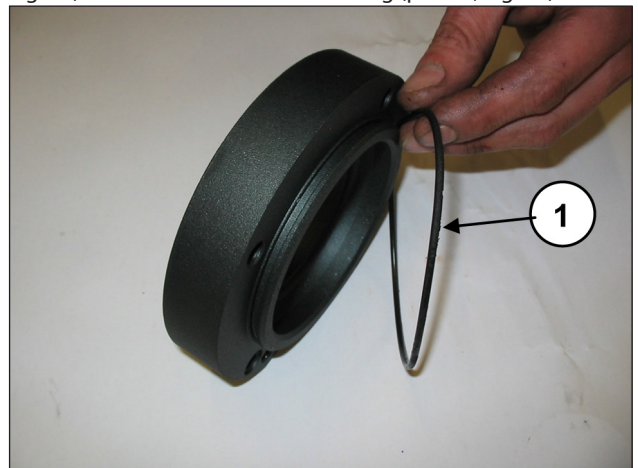
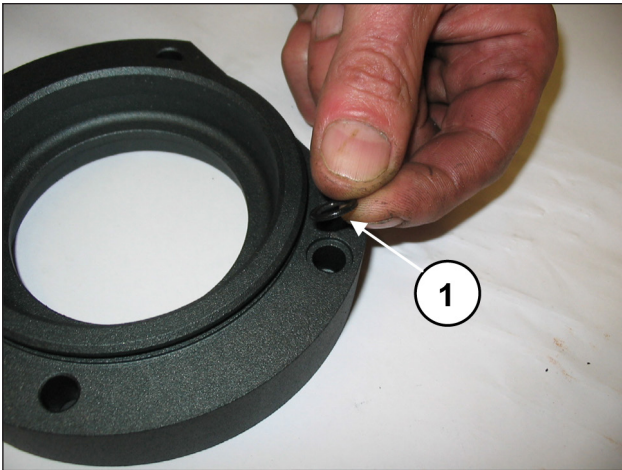

Fig. 66
Fig. 67
Apply to the PTO bearing covers: the external O-ring (pos. ①, Fig. 66) and the lubrication hole O-ring (pos. ①, Fig. 67).